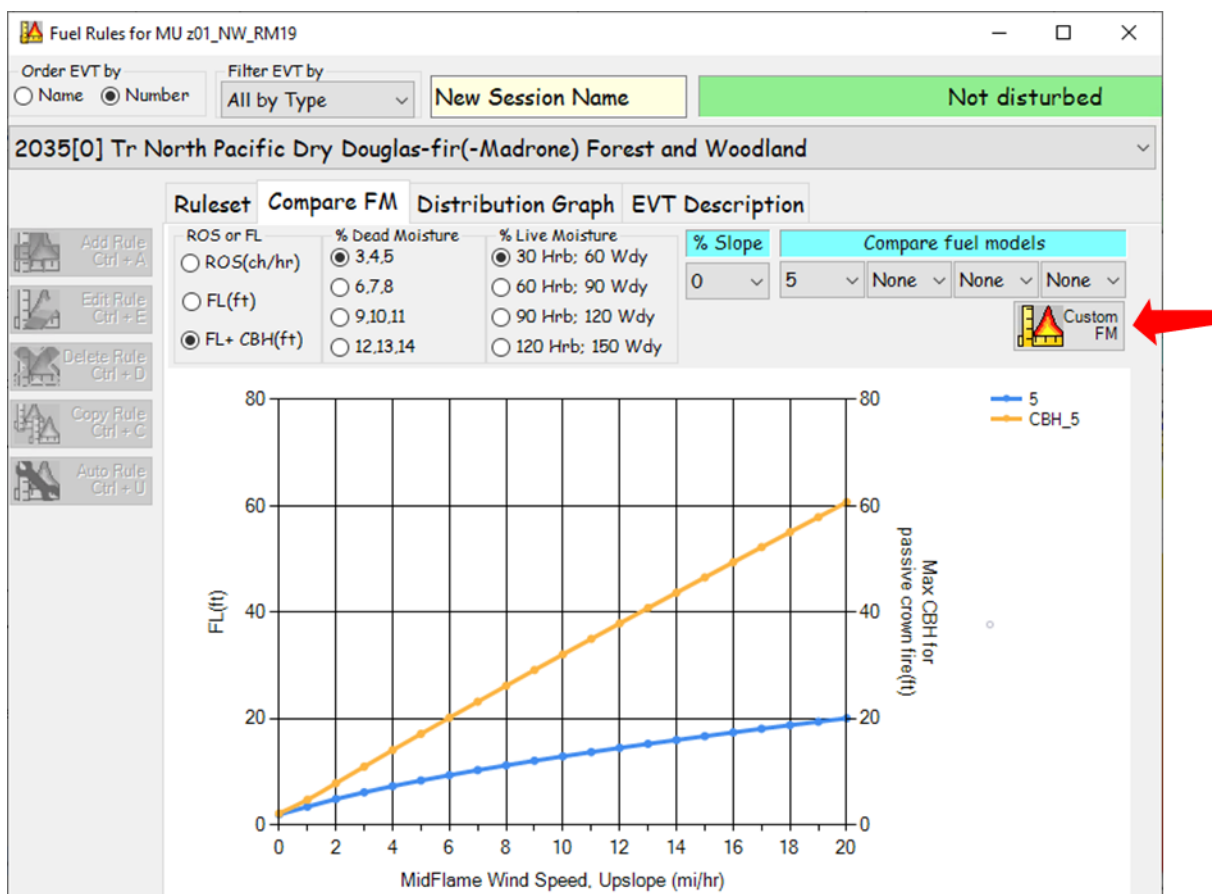

Figure 7-27: **Fuel Rules** screen with **Compare FM** page displayed.
This page graphically illustrates fire behavior traits, such as Rate of Spread (**ROS**) and Flame Length (**FL**) for surface fuel models in the FBFM 13 and FBFM 40 systems at various fuel moisture regimes, wind speeds and slope. A graphic display of CBH range that would initiate crown fire behavior at various fuel moisture regimes, wind speeds, and slope is also included (Figure. 7-27).
- This task is accomplished by clicking the **Custom FM** icon shown above (Figure 7-27).